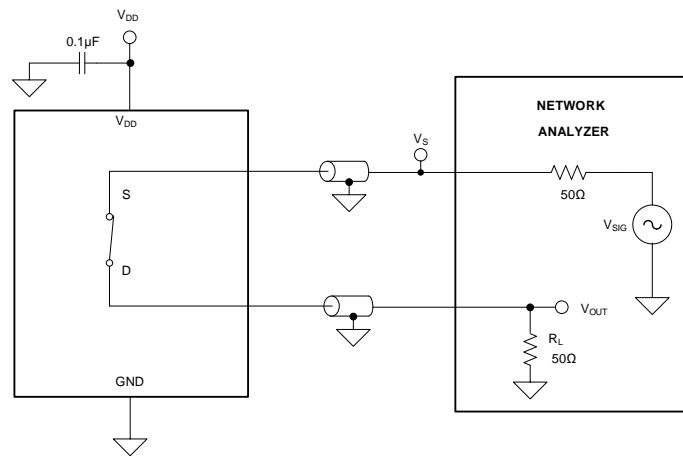

图 22. Bandwidth measurement setup
Bandwidth is defined as the range of frequencies that are attenuated by less than 3 dB when the input is applied to the source pin (S) of an on-channel, and the output is measured at the drain pin (D) of the device. The characteristic impedance, Z_0 , for the measurement is 50 Ω . 图 22 shows the setup used to measure bandwidth.